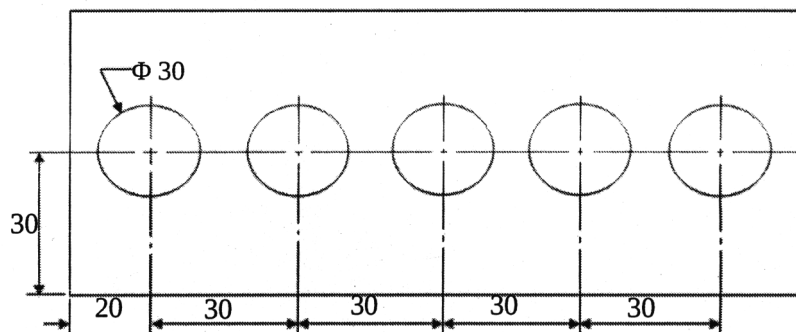

Fig. No. 1
- Construct a part programme for the following component using do-loops shown in Fig. No. 1 (All dimensions are in mm)